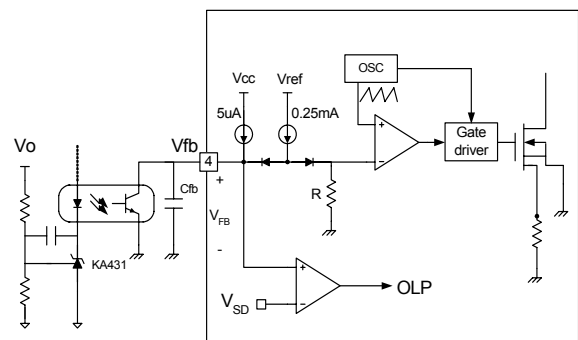

Figure 8. PWM and Feedback Circuit
**2. Feedback Control :** The FSD200B/210B are voltage mode controlled devices as shown in Figure 8. Usually, an opto-coupler and KA431 type voltage reference are used to implement the feedback network. The feedback voltage is compared with an internally generated sawtooth waveform. This directly controls the duty cycle. When the KA431 reference voltage exceeds the internal reference voltage of 2.5V, the optocoupler LED current increases, the feedback voltage Vfb is pulled down and it reduces the duty cycle. This will happen when the input voltage increases or the output load decreases.